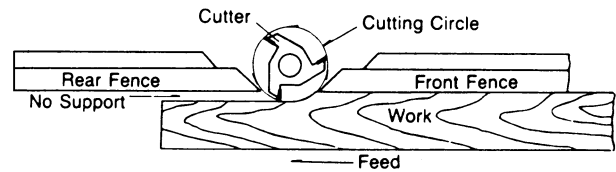

Fig. 9
- When the shaping operation removes the entire edge of the work (i.e. jointing or making a full bead), the shaped edge will not be supported by the rear fence when both fences are in line as shown in Figure 9. In this case, the work piece should be advanced to the position shown in figure 9 and stopped.